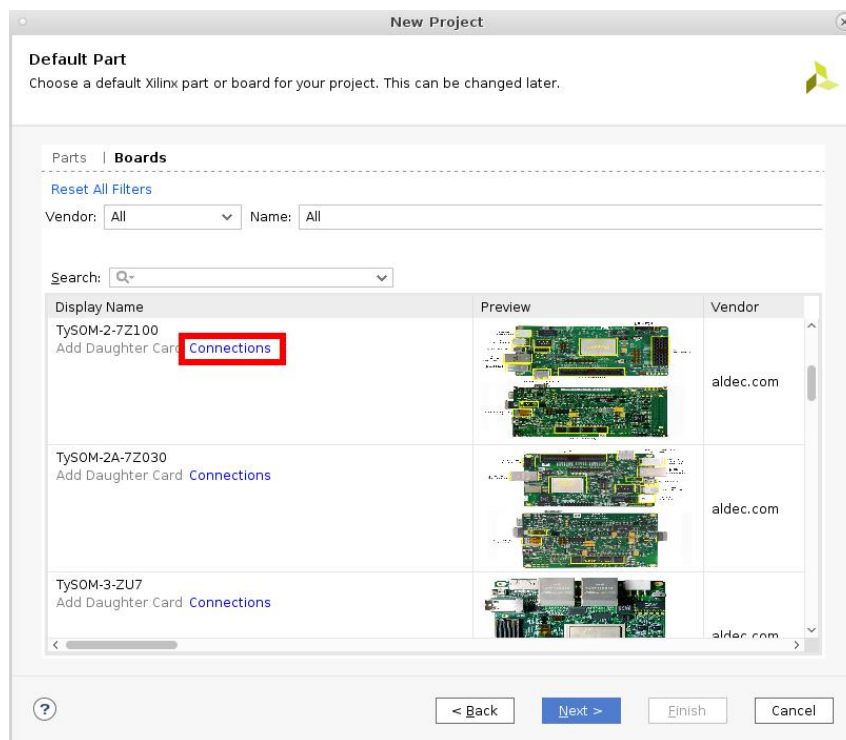
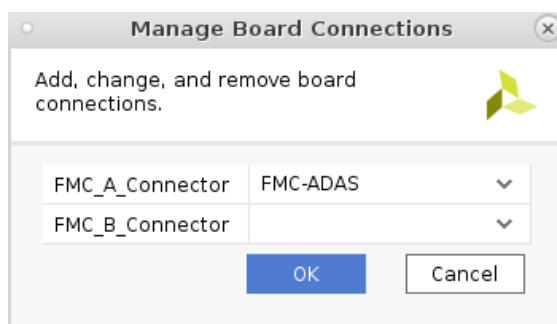

Figure 5: Add a daughter card connections.
Figure 6: Select a daughter card.
- Some of TySOM boards have FMC connectors. Board connections can be added by selecting a FMC daughter card as shown in Figure 5 and Figure 6.